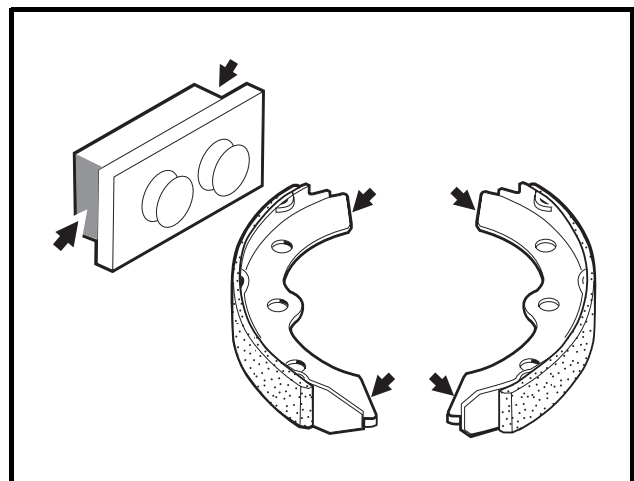

Figure 6-10 Apply Grease To Brake Shoes and Slots
5. Use a small brush to carefully apply a light coat of white lithium NLGI #2 grease (Dow Corning BR2-Plus or equivalent) to each end of both brake shoes and into the slots in the brake shoe mounting block as shown (**Figure 6-10, Page 6-5**). See preceding **WARNING**.